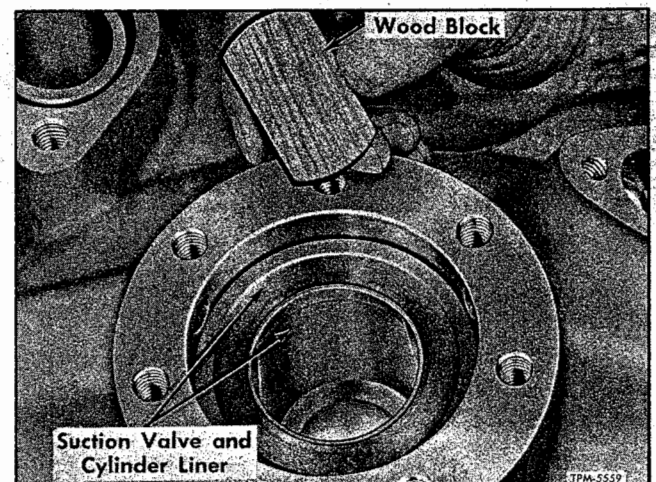

Figure 13—Wood Block Used for Removal of Suction Valve and Cylinder Liner
NOTE: The suction valve plate (23) is tapered in toward the top. A block of soft wood should be cut and shaped to fit into this taper (fig. 13).